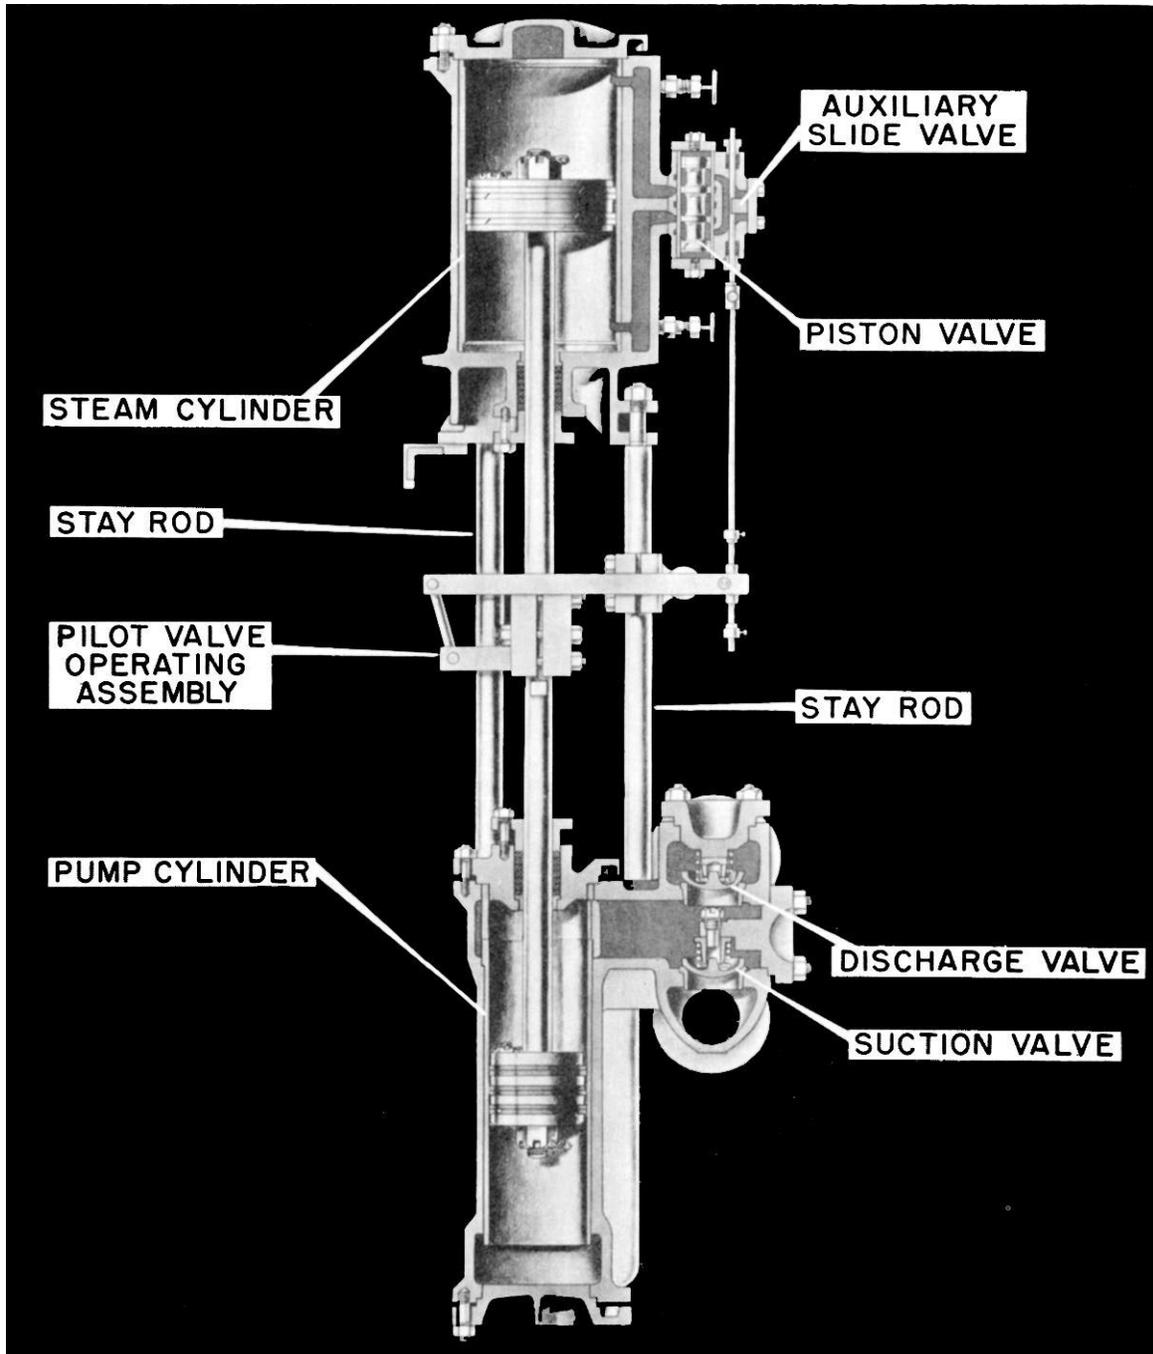

Figure 5-12.—Reciprocating pump.
The reciprocating pump shown in figure 5-12 is a direct-acting, simplex, double-acting, high-pressure, vertical pump. Now let's see what all these terms mean about the pump shown in the illustration.
**SIMPLEX AND DUPLEX PUMPS.**—The pump shown in figure 5-12 is called a single or simplex pump because it has only one liquid cylinder. Simplex pumps may be either direct acting or indirect acting. A double or duplex pump is an assembly of two single pumps placed side by side on the same foundation; the two steam cylinders are cast in a single block, and the two liquid cylinders are cast in another block. Duplex reciprocating pumps are seldom found in modern combatant ships, but were commonly used in older ships.
The pump shown in figure 5-12 is double acting. (NOTE: Only one of two sets of valves is shown in fig. 5-12.)
**HIGH-PRESSURE AND LOW-PRESSURE PUMPS.**—The pump shown in figure 5-12 is designed to operate with a discharge pressure which is higher than the pressure of the steam operating the piston in the steam cylinder; in other words, it is a high-pressure pump. In a high-pressure pump the steam piston is larger in diameter than the plunger in the liquid cylinder. Since the area of the steam piston is greater than the area of the plunger in the liquid cylinder, the total force exerted by the steam against the steam piston is concentrated on the smaller working area of the plunger in the liquid cylinder. Therefore, the pressure per square inch is greater in the liquid cylinder than the steam cylinder. A high-pressure pump discharges a comparatively small volume of liquid against a high pressure. A low-pressure pump, on the other hand, has a comparatively low discharge pressure but a larger volume of discharge. In a low-pressure pump, the steam piston is smaller than the plunger in the liquid cylinder.
**VERTICAL AND HORIZONTAL PUMPS.**—Finally, the pump shown in figure 5-12 is classified as vertical because the steam piston and the pump plunger move up and down. Most reciprocating pumps in naval use are vertical; however, you may occasionally encounter a horizontal pump, in which the piston moves back and forth rather than up and down.